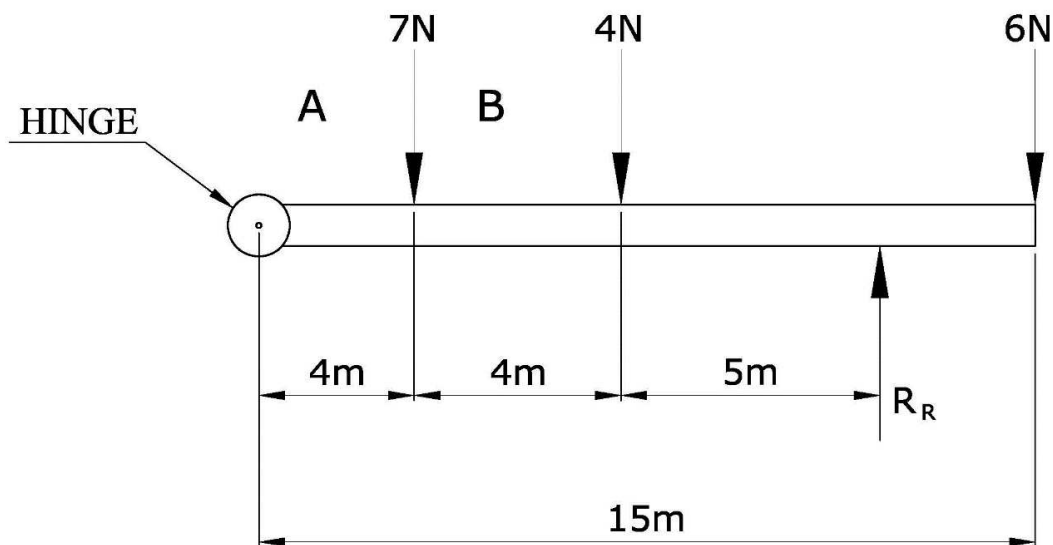

Figure 3b
a) Using a scale of 10 mm representing 1 metre, reproduce the given space diagram shown in Figure 3b and complete with Bow's notation. (2)
b) Draw the force diagram for the three parallel forces, use a scale of 10 mm representing 1 N. Choose a suitable location for point O outside the force diagram and complete the polar diagram. (3)